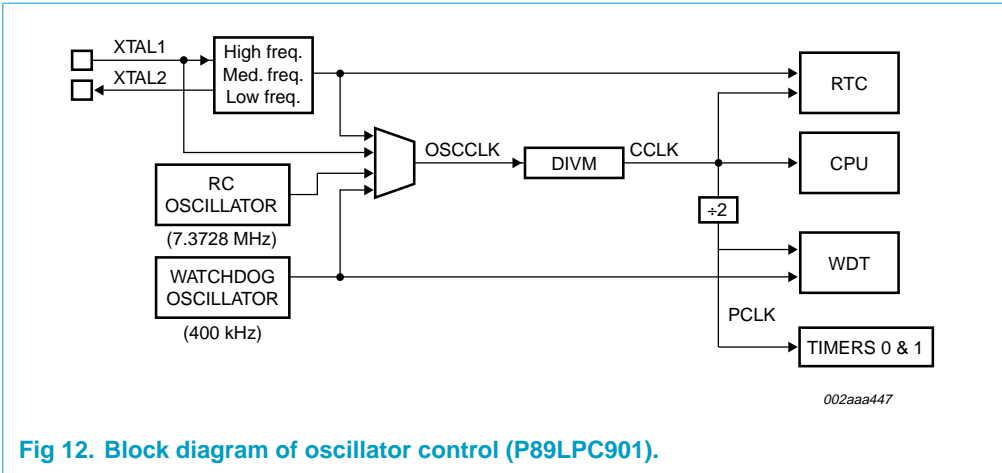

Fig 12. Block diagram of oscillator control (P89LPC901).
**OSCCLK** — Input to the DIVM clock divider. OSCCLK is selected from one of the clock sources (see Figures 12, 13, and 14) and can also be optionally divided to a slower frequency (see Section 8.7 “CPU CLOCK (CCLK) modification: DIVM register”).